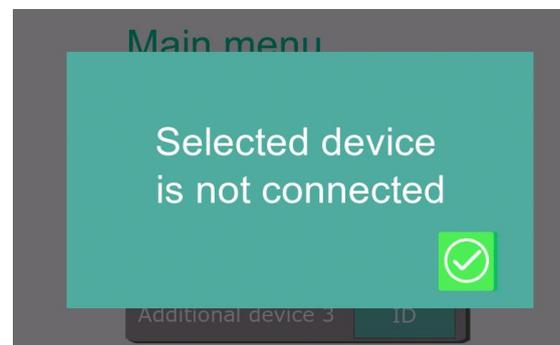

Figure 13 – CAN ID menu
8. If you tap on an additional device whose CAN ID is entered, an error message will appear (Fig. 13).